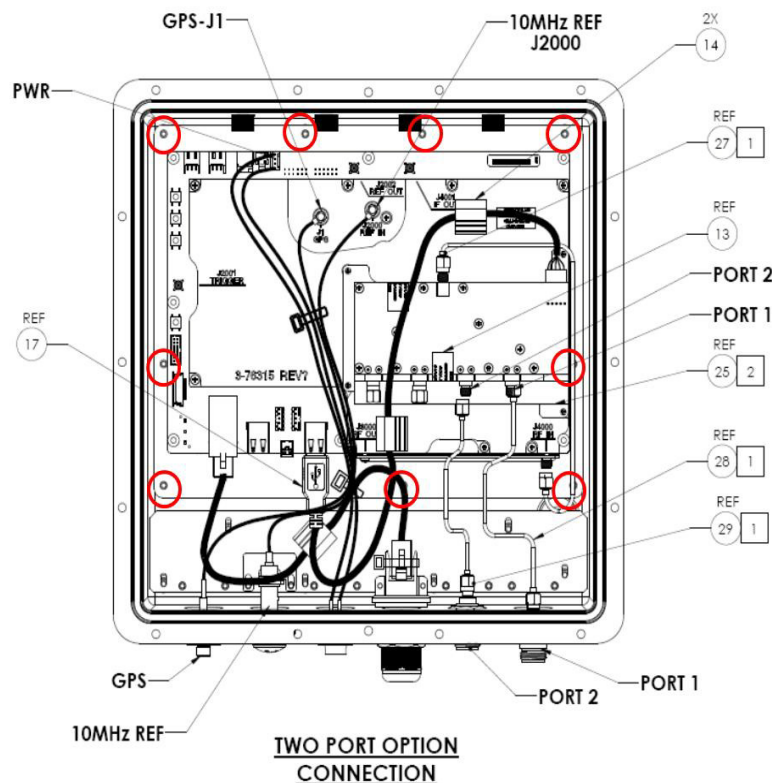

Figure 3-8. Removing the 9 Screws Connecting PCB Assemblies to the Case
- Referring to Figure 3-8, remove the 9 screws around the outside of the SPA PCB that are holding the SPA PCB bracket to the bottom case.